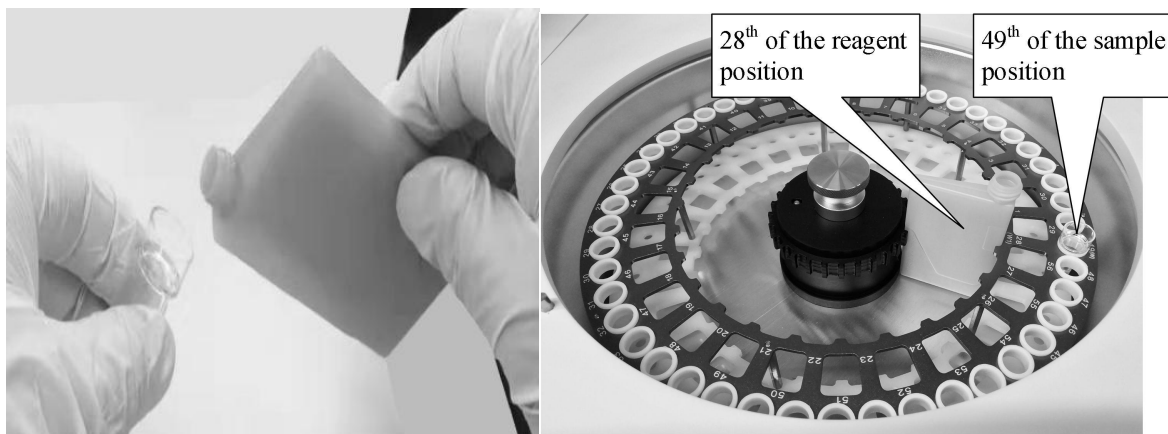

Figure 10-64 Sample position cleaning fluid adding
3. Sample position cleaning fluid adding method: Cleaning fluid C is added to the sample cup, and it is placed in the 49th position of sample position, as shown in figure 10-64.